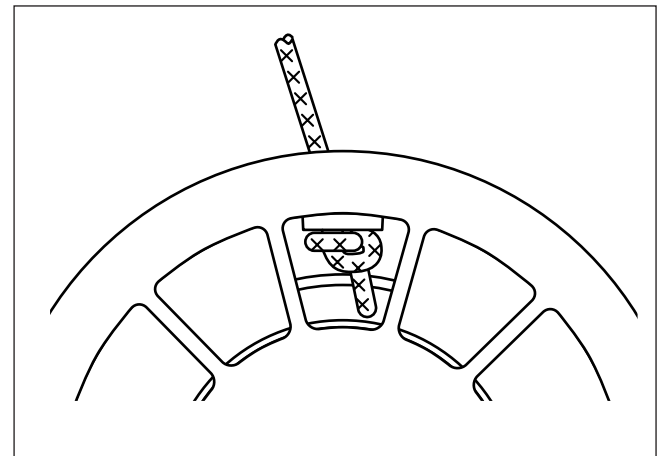

Fig.14-9
-3 Put the rope into the reel, taking care that the rope end does not stick up. (Fig. 14-9)